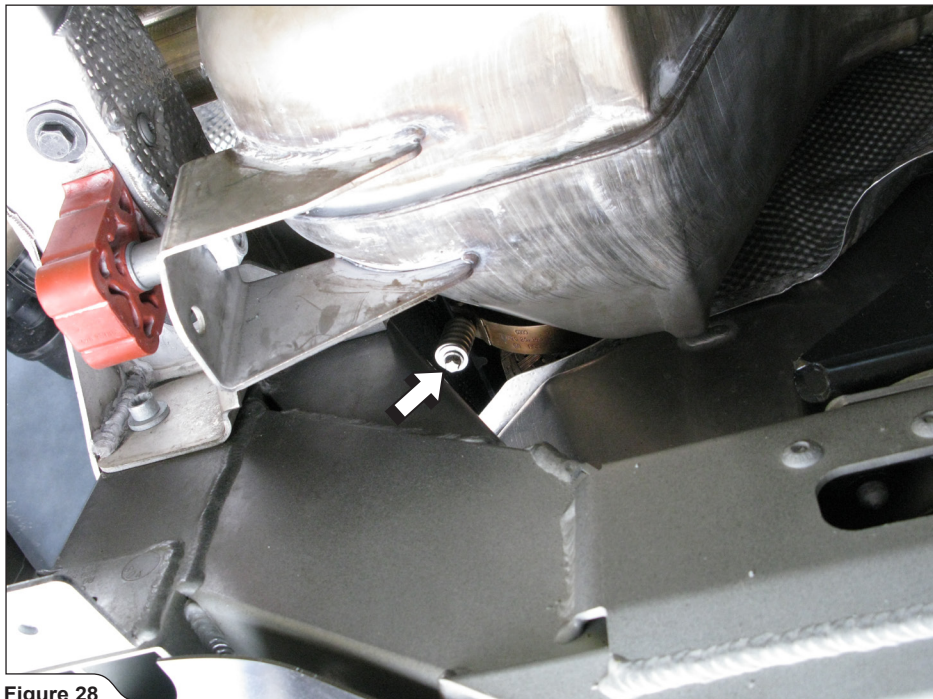

Figure 28
20. Unscrew the muffler's connection clamps on both sides of the engine (**Figure 28**).